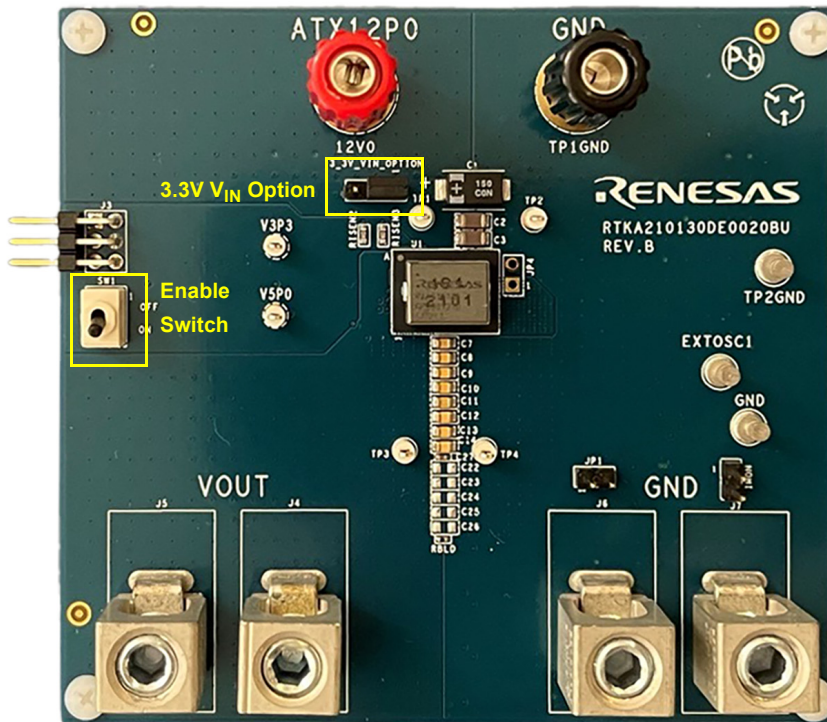
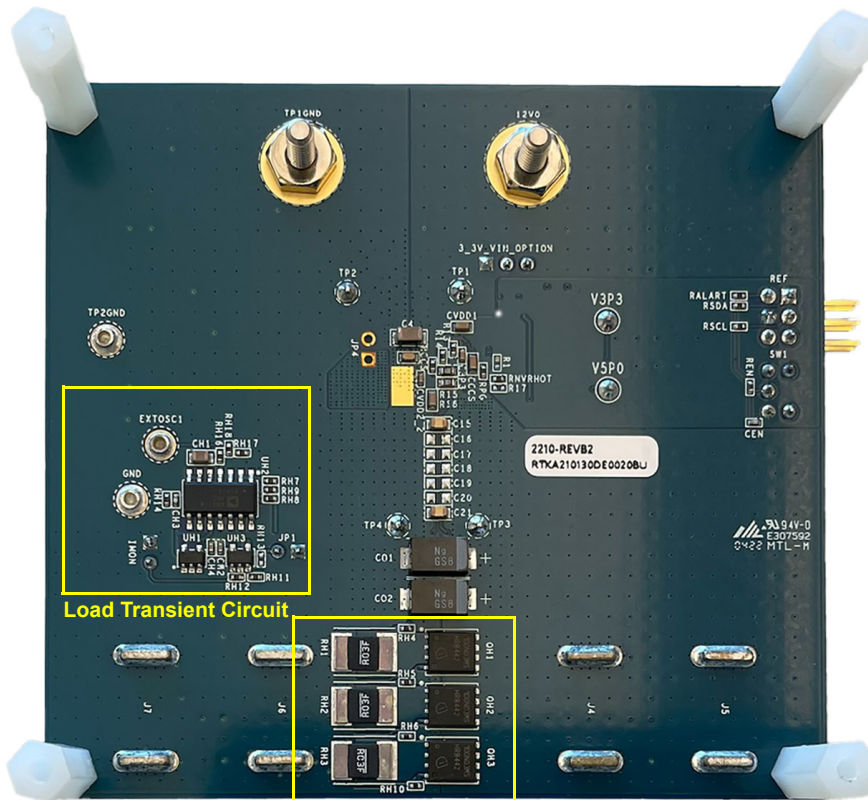

Figure 6. Top of Board
Figure 7. Bottom of Board
The RTKA210130DE0020BU evaluation board provides the peripheral circuitry to evaluate the feature set of the RAA210130. The evaluation board includes several connectors, test points, a mechanical switch and jumper that simplify the evaluation of the module. When pin Enable is selected in the PowerNavigator, the converter is enabled and disabled by switching the EN pin as shown in Figure 6. Connecting a jumper between pin 1 and 2 of the 3_3V_VIN_OPTION, allows using VIN to power the internal analog 5V and 3.3V supplies (as shown in Figure 6). The RTKA210130DE0020BU evaluation board has a built-in load transient test circuit which can be used to test the load transient response of the RAA210130 (see Figure 7). Figure 6 and Figure 7 show the photograph of the top and bottom of the RTKA210130DE0020BU evaluation board.
1. Disable the module by turning the SW1 switch to the OFF position, shown in Figure 6.
To configure for using external 5V/3.3V supplies, power down the board and remove the jumper on 3_3V_VIN_OPTION. Apply 5V to the V5P0 test point. Apply 3.3V to the V3P3 test point. See locations of the 3_3V_VIN_OPTION, V3P3 and V5P0 test points in Figure 6.